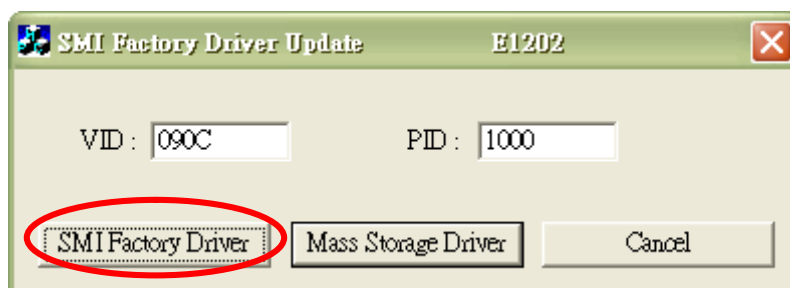

Fig. 7 The installation for Specific USB storage device driver.
Step 3、According to your OS version, ran the specific USB storage device driver existed in the 「winXP」、 「Win2000」 or 「win98\_factory\_driver」 directory, and press the 「SMI Factory Driver」 button for driver installation as Fig. 7. If you want to remove the specific USB storage device driver, press the 「Mass Storage Driver」 button in the Fig. 7. The driver will become the system default and this application program will not support exactly.